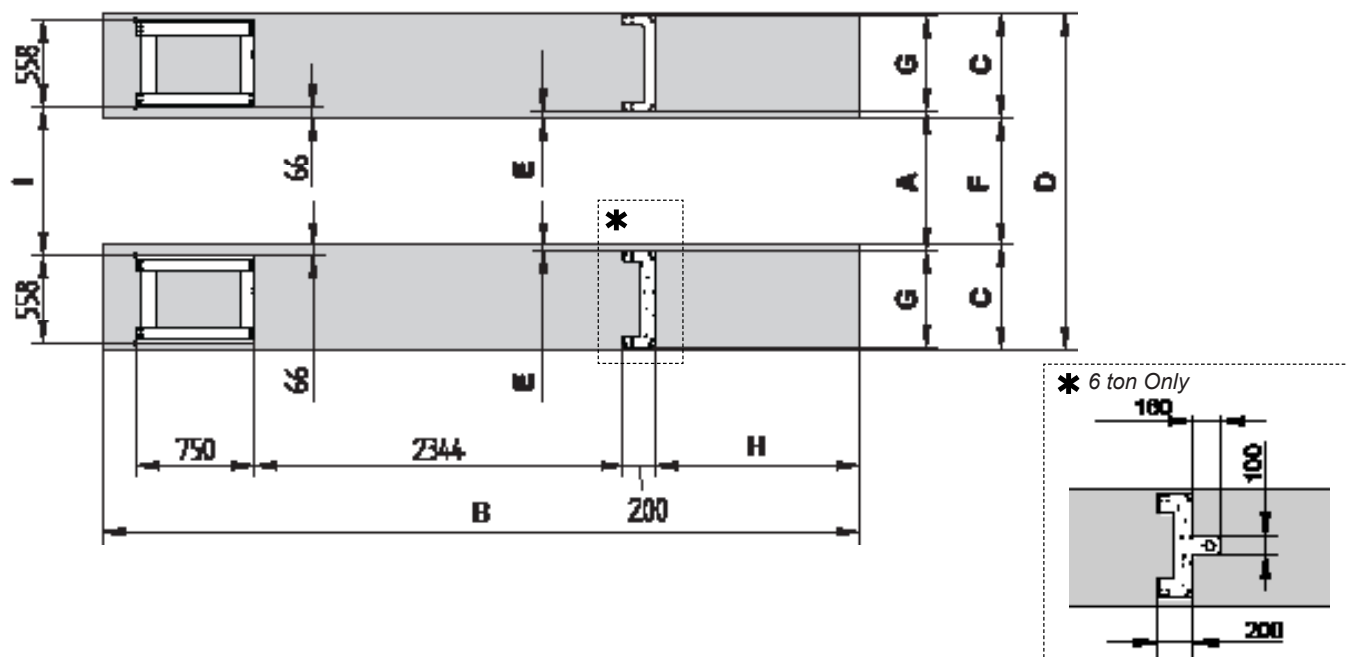

Fig. 1
- Check that the platforms are parallel, squared and positioned so the distance between the internal edges of the crossbar guide corresponds to **dimension A** (Fig. 1): if not, adjust the bases accordingly, taking care to maintain the longitudinal distance and to ensure they remain aligned.
- Lower the platforms to the ground and check **dimension A** again (Fig.1).